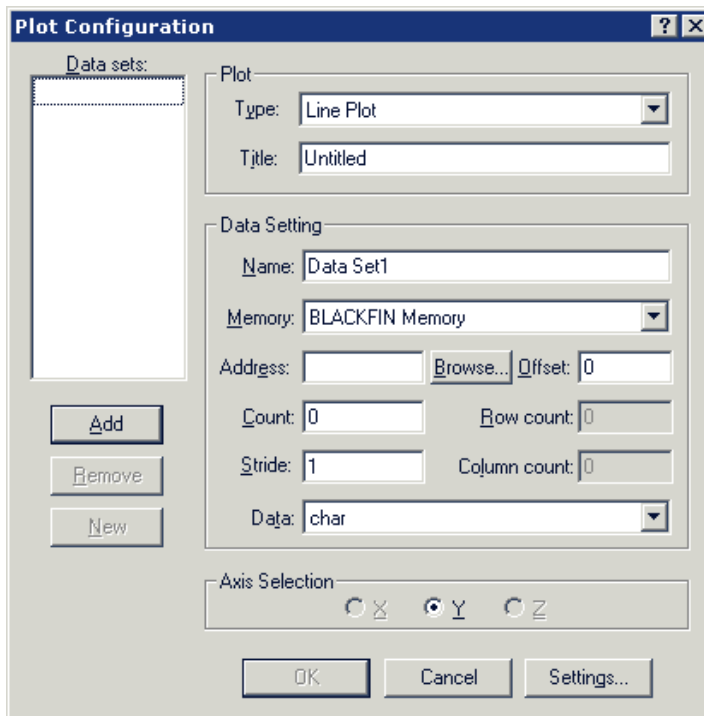

Figure 2-22. Plot Configuration Dialog Box
1. From the **View** menu, choose **Debug Windows** and **Plot**. Then choose **New** to open the **Plot Configuration** dialog box, shown in Figure 2-22.